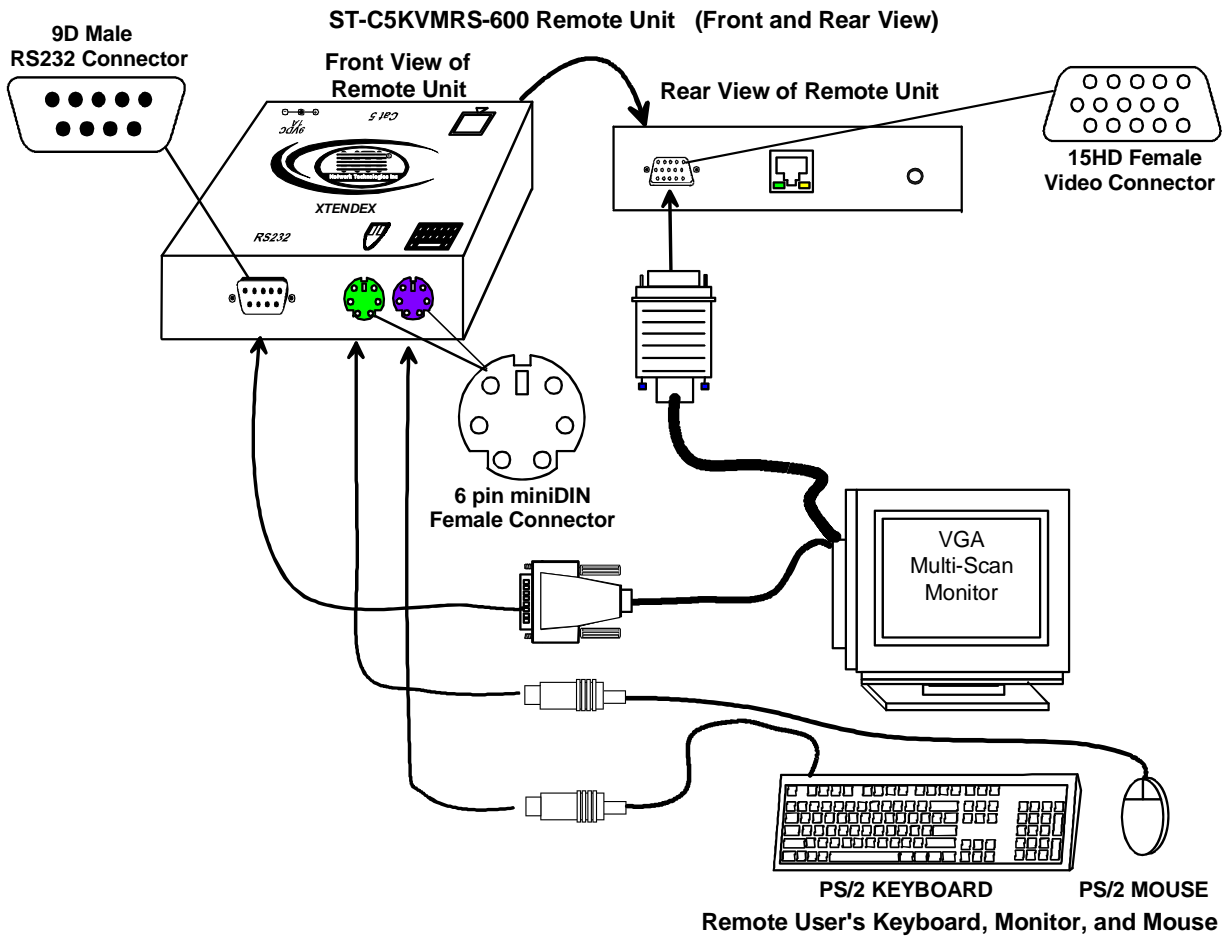

Figure 7- Connect the Extended Components to the Remote Unit
3. Connect the device(s) to the Remote Unit (see Figure 7)(KVM models only).
5. If the Remote Unit has audio support, connect the cable from the remote speakers to the 3.5mm stereo audio jack on the Remote Unit. (See Figure 7)